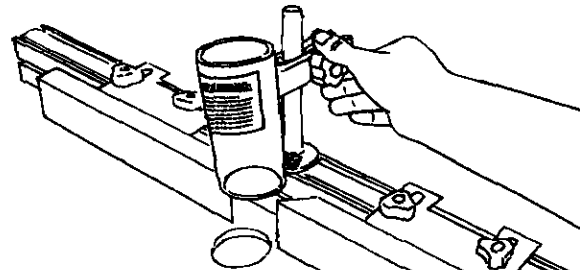

Fig. 7
- Position guard/dust cover so that it is over the throat of the router table and approximately 3-1/4 in. from the table surface. See Figure 7.